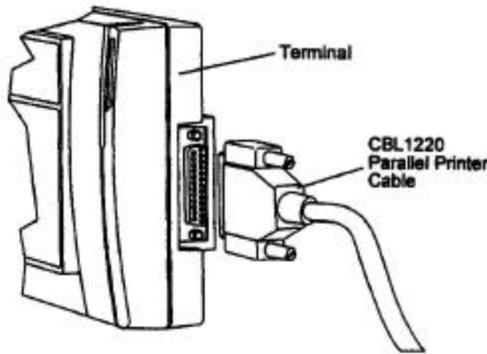

Figure 14: Parallel Printer Connection
1. **Connect a parallel printer to the terminal (#3) per the diagram shown in Figure 14.**